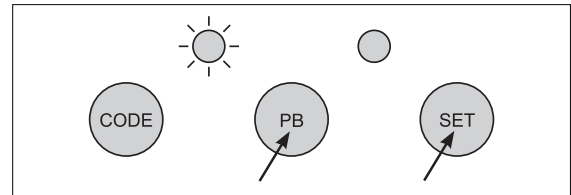

Fig. 12
- 2 Press and hold **PB** to move the door to the desired **open** position and release (the yellow open LED will illuminate to indicate the open cycle). If you over shoot the desired position press **CODE** to drive the door down. Fig. 12.